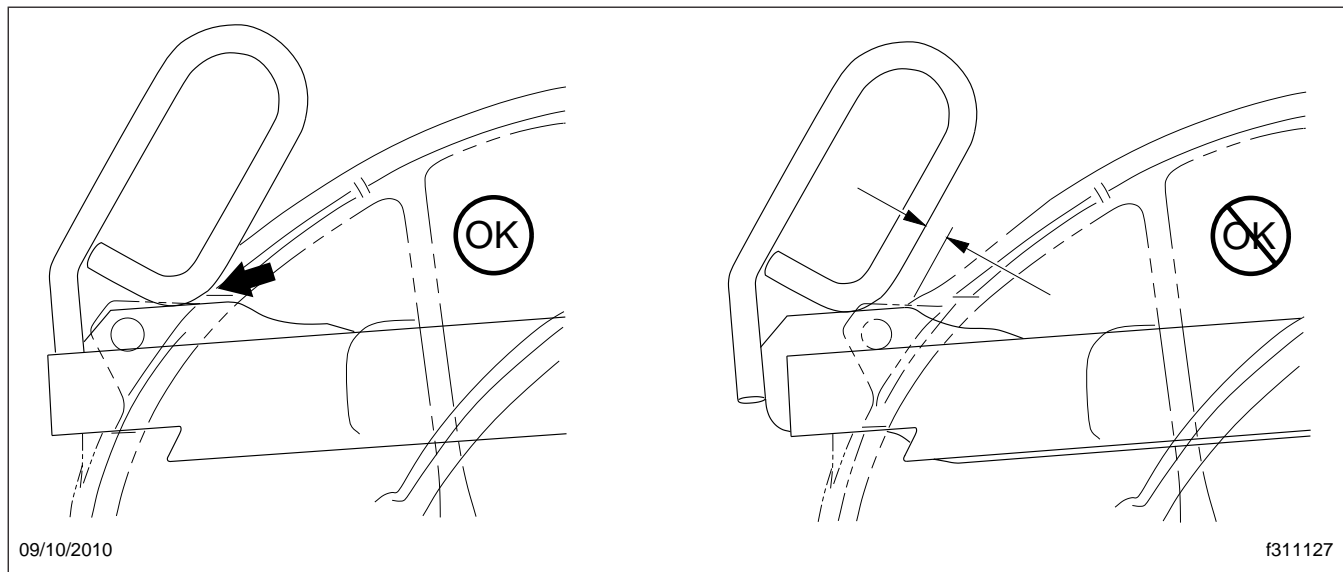

Fig. 10.8, Jost Release Handle Locked
11. Ensure that the release handle is in the locked position adjacent to the casting. See Fig. 10.8.